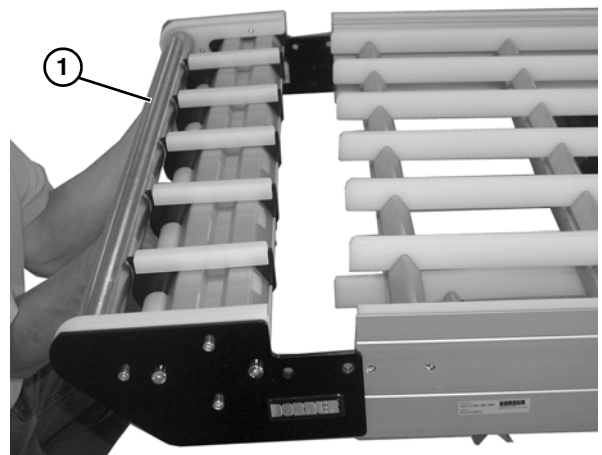

Figure 68
3. Remove idler tail assembly (**Figure 68, item 1**).